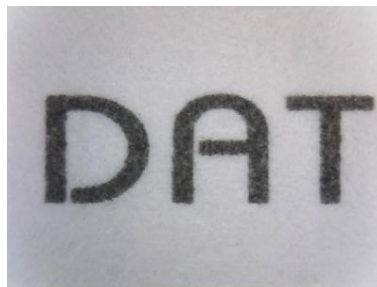

Fig.3-20 Video image with no flip
- ⊕ No Flip “” : Video image’s flip direction, does not makes any flip shown in Fig.3-20.